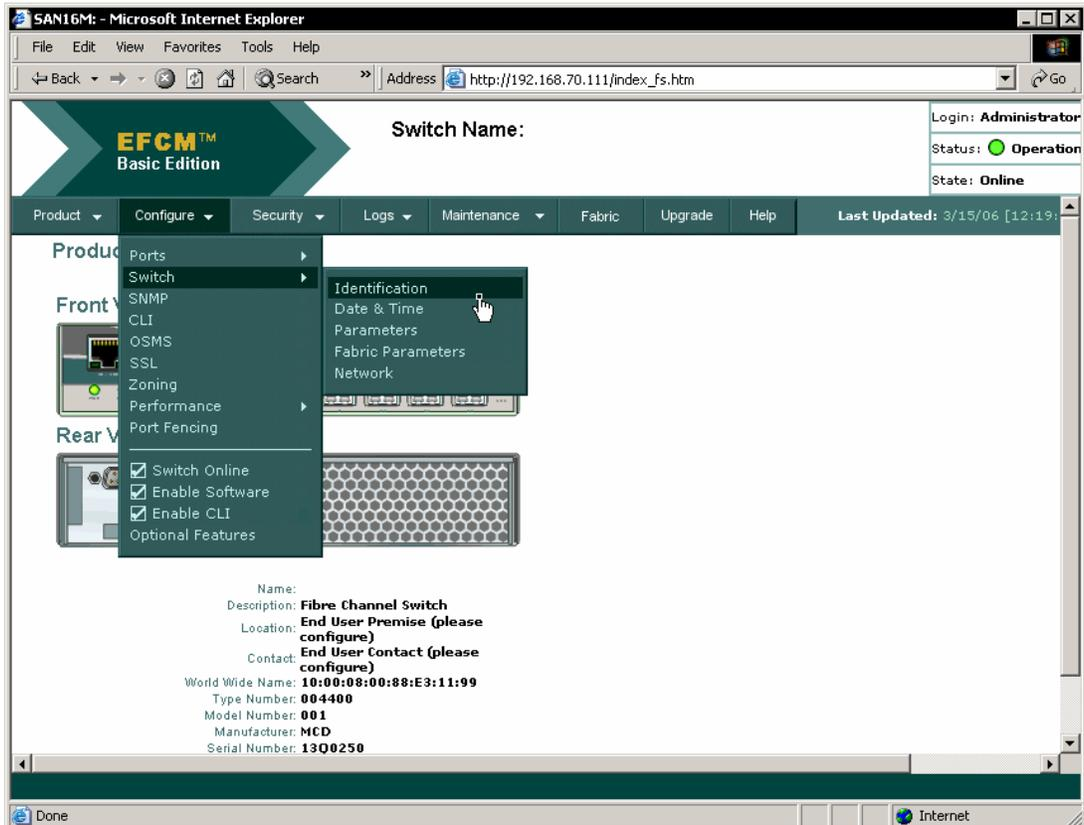

Figure 29 EFCM Basic - switch configuration
1. From the Switch Details view of the EFCM Basic interface, click the **Configure** menu and select **Switch**, and then **Identification**, as shown in Figure 29.